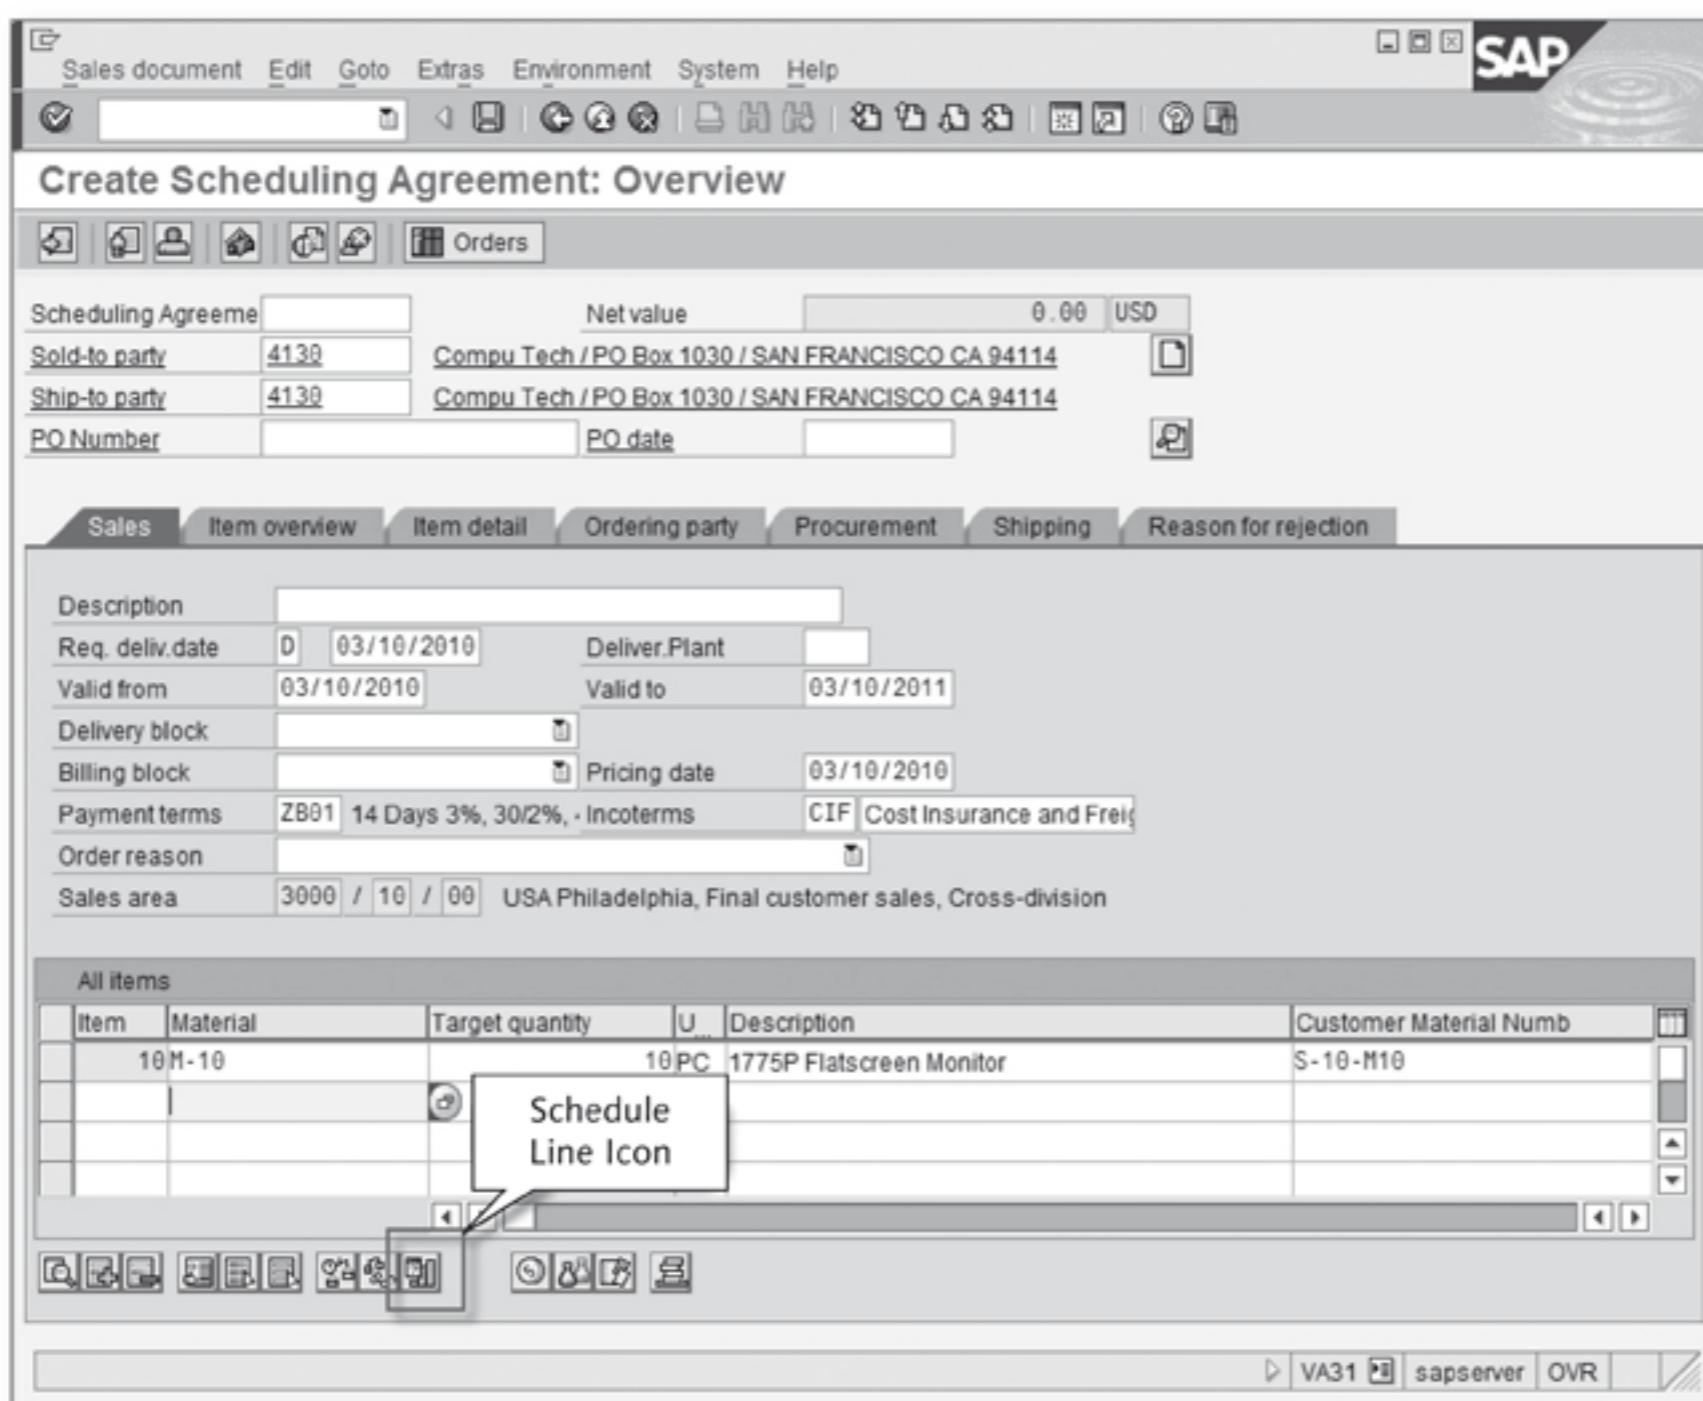

Figure 3.24 Create Scheduling Agreement – Schedule Line Icon
6. To enter the delivery dates, you have to access the Schedule Line details screen by using the Schedule Line icon, as highlighted in Figure 3.24, or by going to GOTO • ITEM • SCHEDULE LINES.